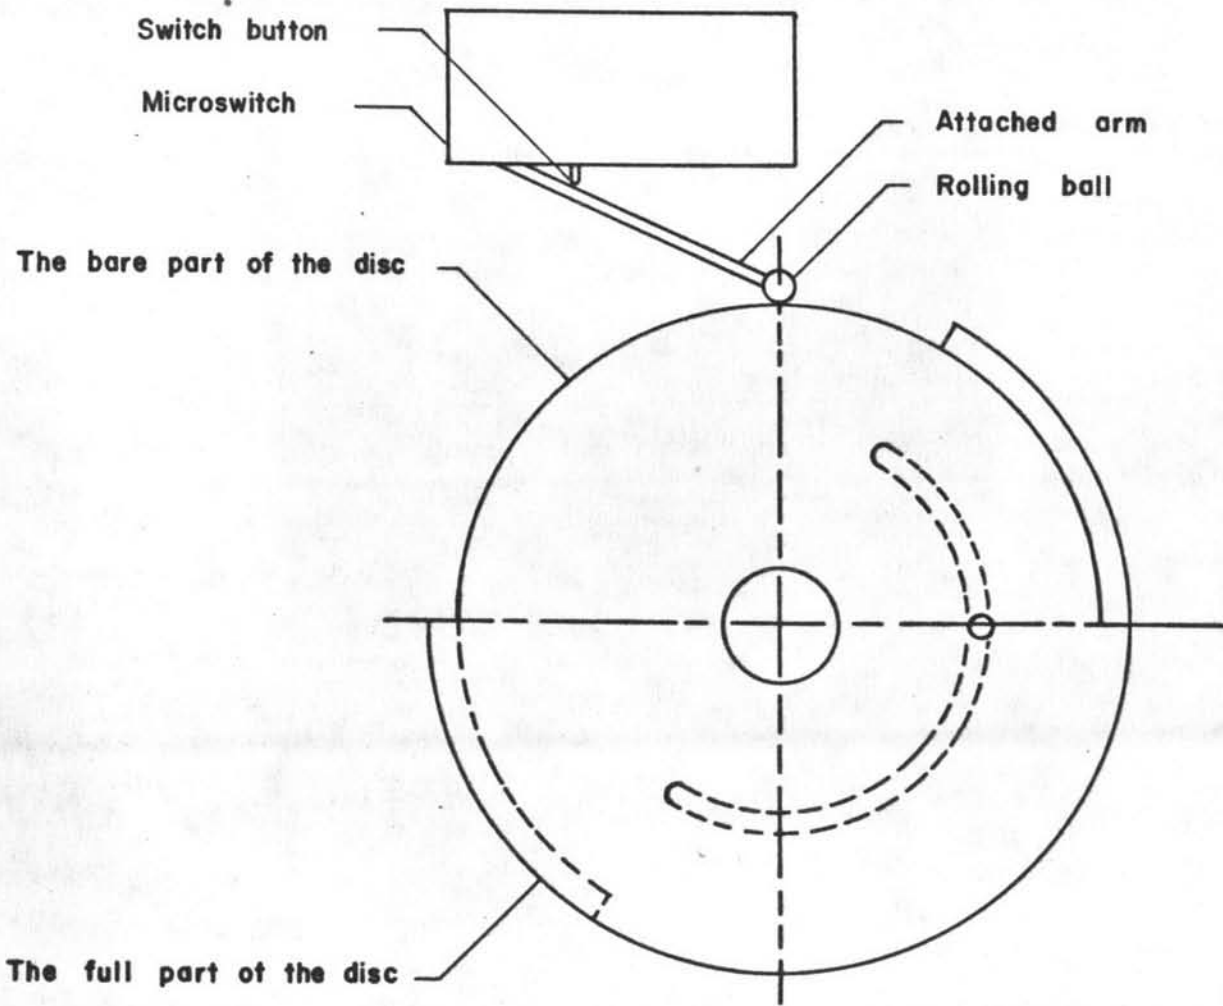

Fig 4.4 The Position of the Microswitch
3. Two microswitch. Each consisted of a switch box, an attached contact arm with a rolling ball at its free end, and a switch button. The switch was fixed in a position, as shown in Figure 4.4, so that the rolling ball touched the part of  $3\frac{1}{2}$  inch. diameter, the circuit was closed, and as the rolling ball touched the part of  $3\frac{1}{4}$  inch. diameter, the circuit was open.
The fraction open could be changed by varying the relative position of the two parts of the discs as shown in Figure 4.4. In order to do this, the disc nut was merely loosened and any part of the discs was moved. After that, the disc nut had to be tightened again.